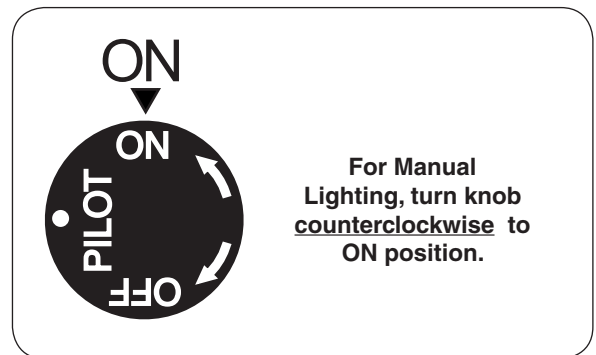

Fig. 25-1 Control knob detail (ON)
1. Ensure the pilot is burning. Turn the gas control knob counterclockwise to **ON** (Fig. 25-1) to ignite the burner. The valve will open and the burner will light.